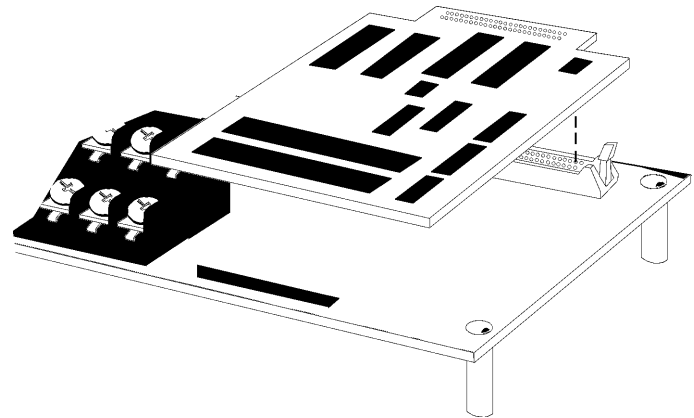

Figure 1
2. Firmly press the header connectors together until the locking tabs clamp down on the brain board as shown in Figure 1.